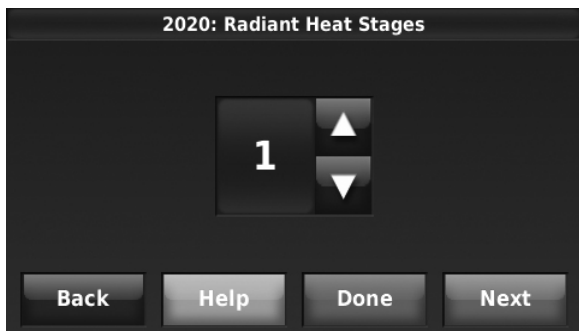

Fig. 200.
2. Select the number of Radiant Heat Stages. See Fig. 200.